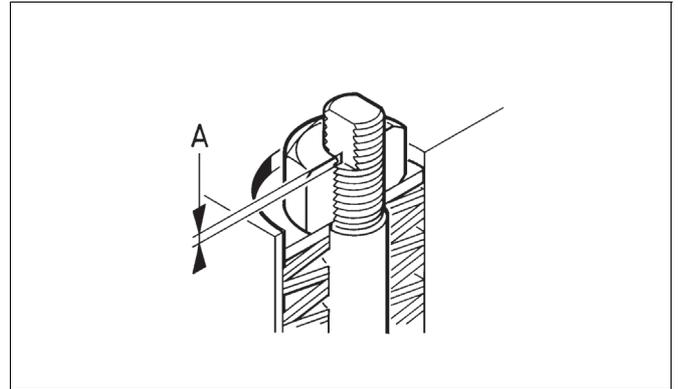
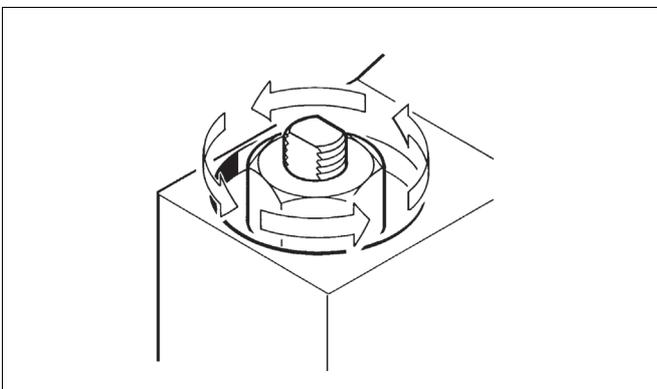

Fig. 16 Measuring "A"
Fig. 15 Loosening of the nuts
- If the actuator cannot turn the ball with the pressure indicated in Table 2, depressurize the actuator and loosen both tilting device nuts (18) by 90°. When necessary, continue loosening the nuts 90° at a time until the valve turns at the pressure indicated in the table, see Fig. 15. Measure the distance "A", see Fig. 16